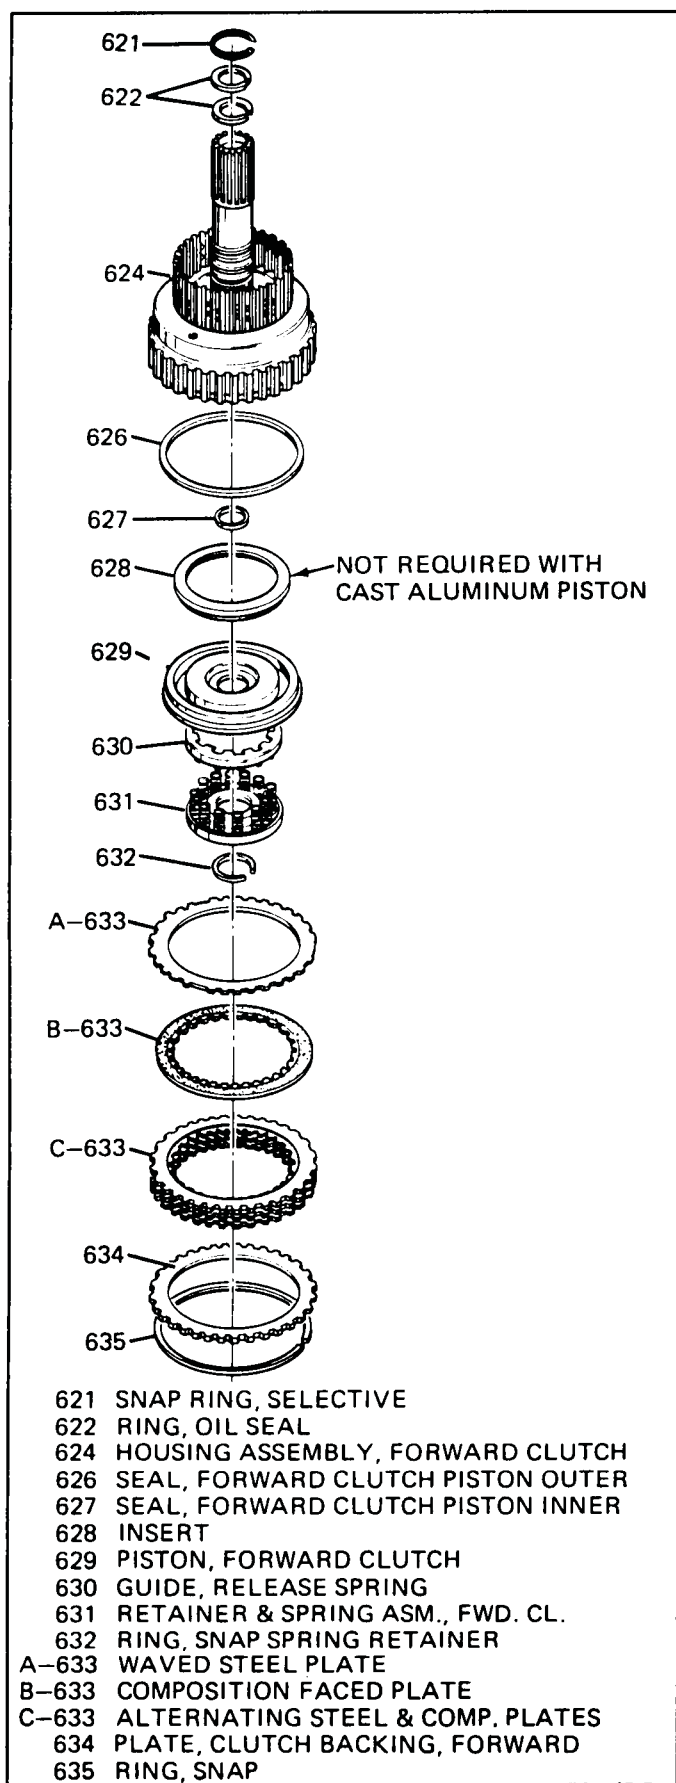

Figure 66 Forward Clutch Assembly
#### Disassemble (Figures 66 and 67)
#### Inspect (Figure 66)
**Assemble (Figures 66, 67, 68, 69, and 70)****Tools Required:**